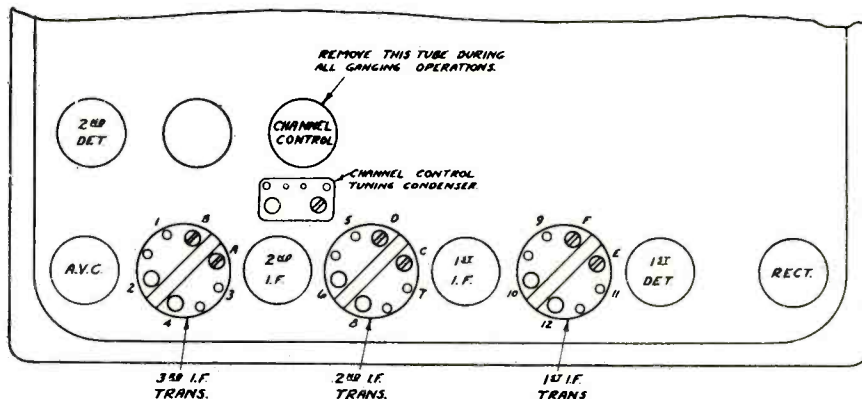

Fig. 2. Bottom view of rear edge of All-American SA-130 chassis
The curves of Fig. 2 indicate the type of characteristics which result. Since the tube plate impedance is in series with the series-tuned circuit, the higher the plate impedance of the tube the lower the peak will be, as a result of which these two particular circuits are not very satisfactory with screen-grid or pentode tubes.
Referring to Fig. 2 curve (a) is the normal amplifier characteristic, (b) is the characteristic with a fairly low-impedance tube, such as the '27, '37, '30 or 56, and (c) the characteristic with a higher impedance tube. These characteristics would apply to either circuit (a) or (b) of Fig. 1, the only difference between the two being the use of an audio choke rather than a resistance in the circuit of (b).
What really happens in this circuit is that as the volume is decreased, the resonant circuit, composed of the air-core inductance and series condenser, starts taking effect, because as the volume is decreased the resistance in the resonated circuit is decreased. The result is that a low-frequency hump appears, similar to the ones shown in Fig. 2. As the volume is increased, the hump is leveled off due to the resistance added between the resonant circuit and the grid of the a-f. tube.
The i-f. system of the receiver consists of two stages peaked at 175 kc. The sketch of Fig. 2 shows a bottom view of the rear edge of the chassis pan and indicates the points at which the 20,000-ohm resistors are to be
(1) Attach one 20,000-ohm resistor across points 1 and 2, as shown in Fig. 2. (This is done by bending ends of resistor leads to form plugs and inserting one lead into one of the small eyelets of 1 and the other into the large eyelet of 2.)
(2) Adjust screws "A" for maximum output.
(3) Remove resistor from 1 and 2 and connect across points 3 and 4.
(4) Adjust screw "B" for maximum output. (Resistor must be left connected across